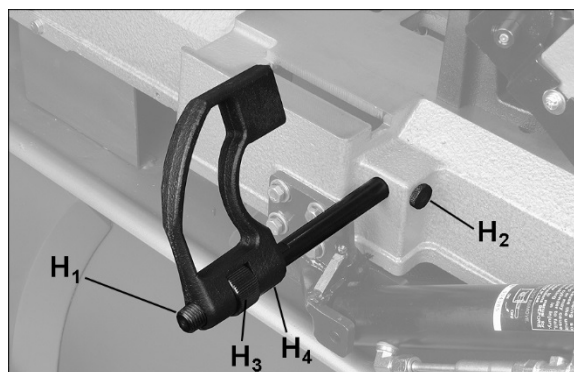

Figure 6-6: Installing Work Stop (712D only)
5. **712D only:** Install work stop rod (H1, Figure 6-6) into hole and tighten knurled nut (H2). Install work stop onto rod threads by rotating collar (H3). Secure position of work stop by tightening set screw (H4) onto rod flat.